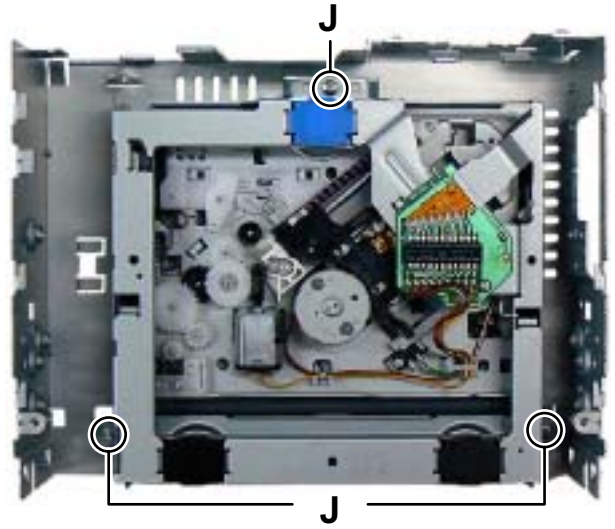

Fig.7
3.1.5 Removing the CD MECHANISM assembly (See Fig.7)